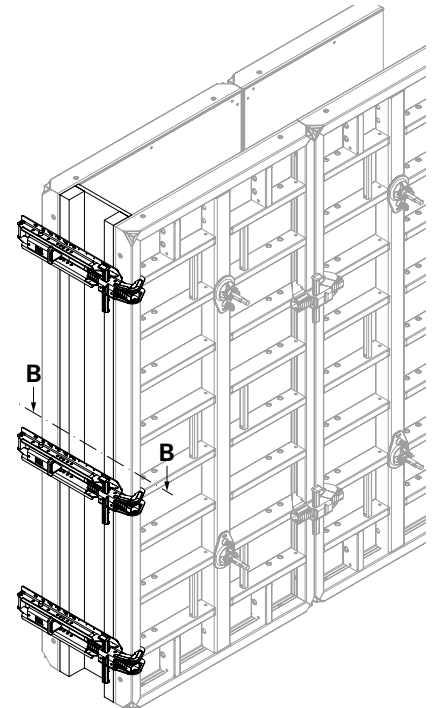

Fig. B10.04
- Perm. fresh concrete pressure 60 kN/m² (Fig. B10.04)